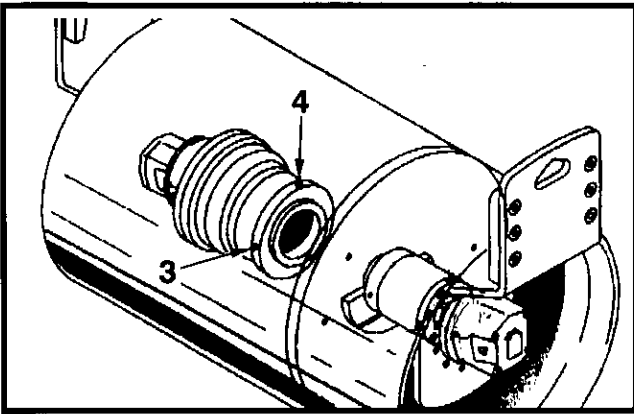

Figure 5-20 Drum Drive Gearbox Oil Level/Fill Plug
1. Ensure machine is positioned on level ground with the plug (3, Figure 5-20) in 3 or 9 o'clock position, parking brake applied, and drums chocked.
3. Remove the level plug (3, Figure 5-20).
5. Allow oil to stop flowing from the level plug hole (1, Figure 5-20)